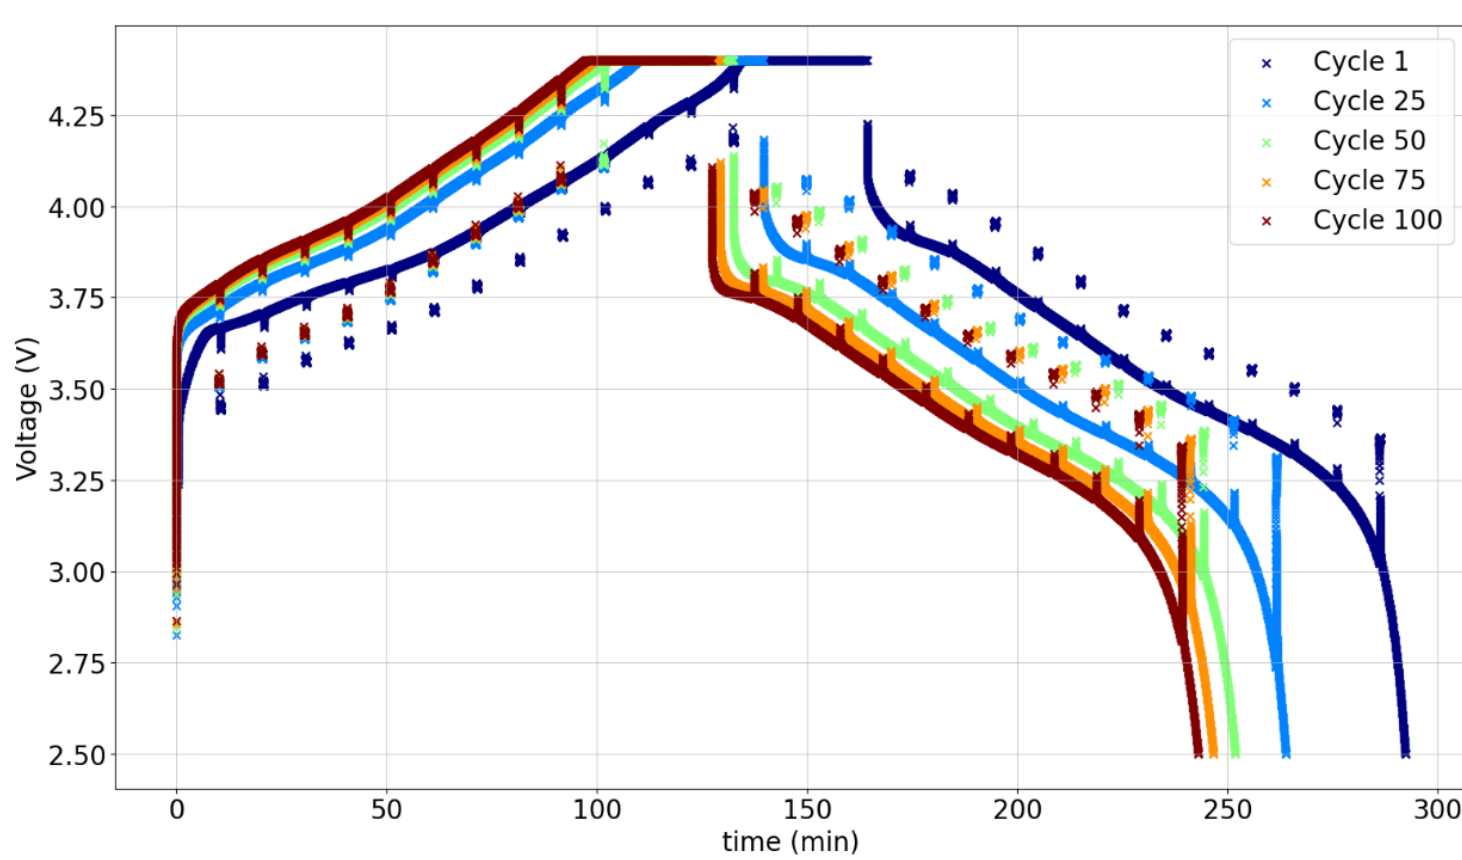

Figure 2: Pouch cell cycling data for selected cycles. The 'spikes' correspond to the ICI steps.
- With prolonged cycling overpotential and voltage hysteresis increase, as can be seen from figure 2. This is reflected in the internal resistance increase, which can be tracked using ICI.